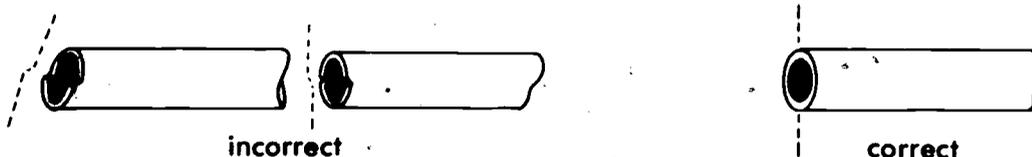

FIGURE 4
- G. Have the instructor check your cut (Figure 4).